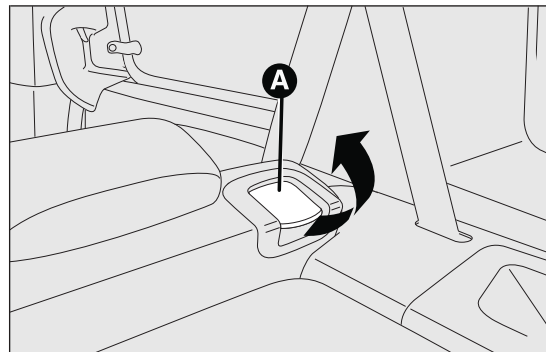

fig. 73
- ☐ lift backrest retainer lever A fig. 73 and fold the backrest forwards to obtain a flat loading area. When you lift the lever, you will see a red band.